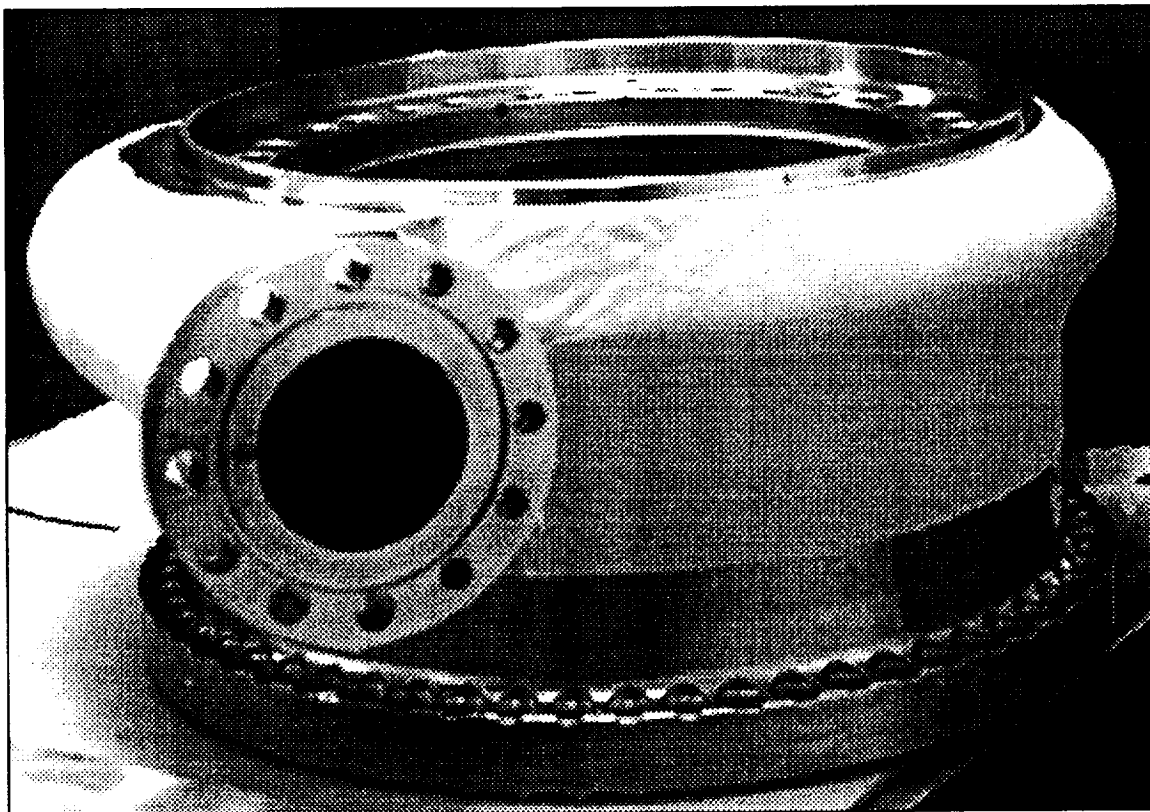

Figure 5. Alternate Turbopump NDE Standard
The Inconel-Kevlar/Urethane NDE Standard inlet housing containing simulated flaws was inspected with electronic shearography. The simulated flaws were representative of unbonds or delaminations of varying sizes in the Alternate Turbopump (AT) housing. DuPont applied the first layer of Kevlar/urethane roving on the Pratt & Whitney housing, including Teflon tape “pillows” to form this NDE standard test article, which is shown in Figure 5. The purpose of these inspections was to determine the appropriate methodology for shearography inspections of the actual flight hardware and to obtain some indication of the associated detectable flaw sizes.